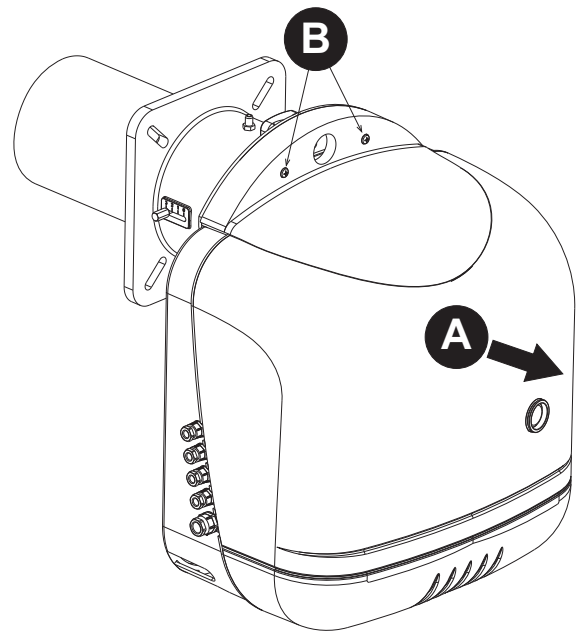

fig. 2b
- 1) Remove the burner casing "A" by undoing the two screws "B" (fig. 2b).